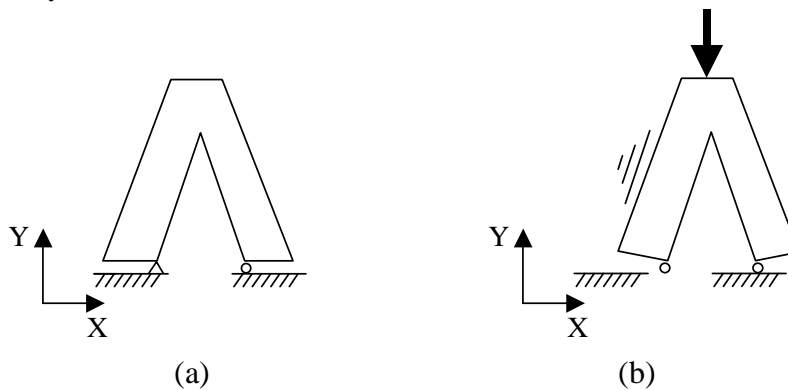

Figure 8. Add sufficient constraints to avoid rigid body motion – (a) is correct (b) is accelerating ad infinitum
- b) Add enough restraints to avoid rigid body motion – there must be sufficient boundary conditions to keep the part from accelerating ad infinitum. Normally you would add a constraint in the X direction in one place as shown in Figure 8(a). If you do not, the body will tend to accelerate as shown in Figure 8(b). This will happen even if there are no forces in the X direction. This is true numerically, due to modeling, truncation and rounding errors. This is also true in real life, under ideal conditions, since any small force could send the body moving.